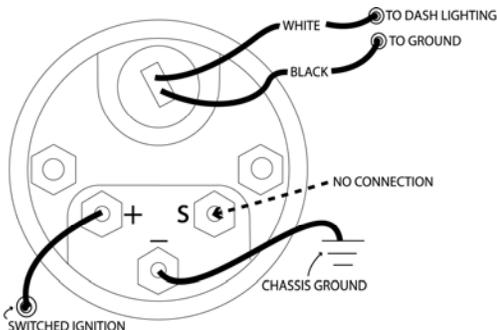

Figure 5
**VOLTMETER WIRING (Figure 5):**
3. Connect one (1) of the light wires (WHITE) to the dash lighting circuit or to a +12V switched circuit.